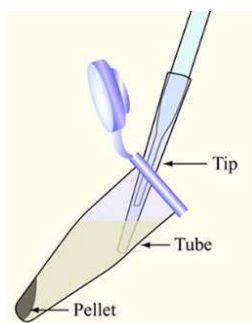

Figure 1. Collect supernatant carefully
- 4.2.5 Collect all of the lysate supernatant (see Figure 1) and transfer to its respective labelled Eppendorf tube on ice.